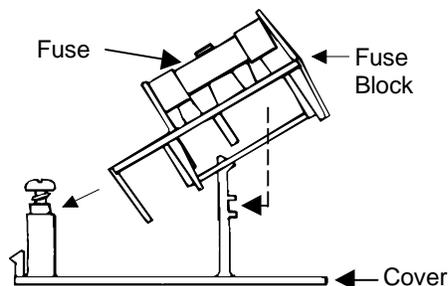

Figure 4-2
To verify that the line voltage configuration matches local line voltages, check the back panel and study Figures 4-2 and 4-3.
- 2.** Remove the fuse block/cover assembly (Figure 4-2) from the back panel using a small-blade screwdriver or similar tool. Set aside the cover and fuse-block assembly.